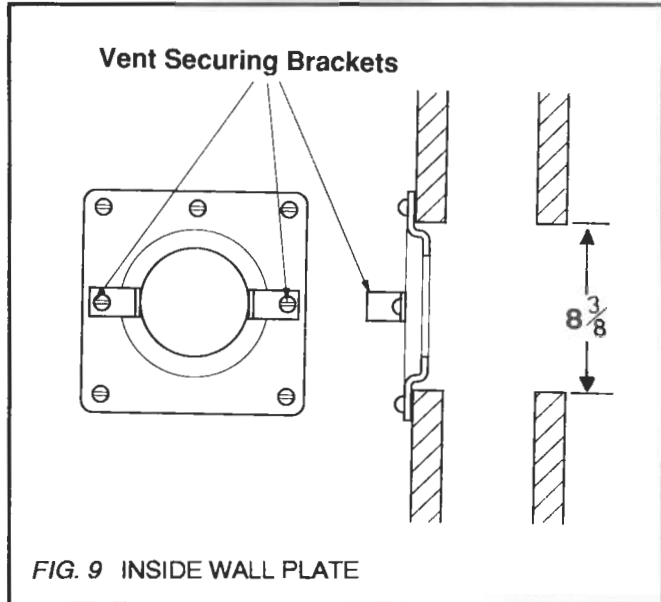

FIG. 9 INSIDE WALL PLATE
**6.5. Install inside wall plate (see figure 9).**